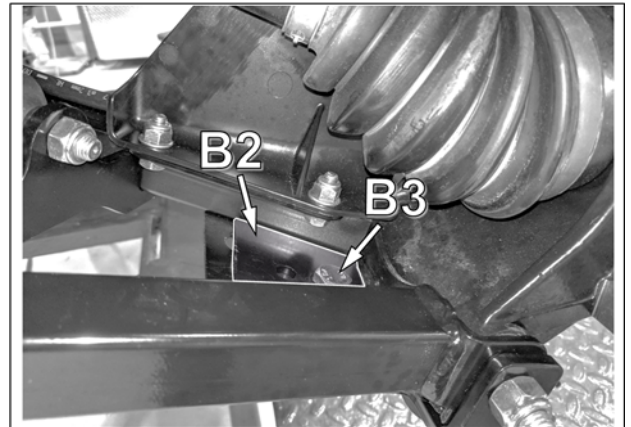

Fig. 7
- Position bracket cover (B2) over lower suspension arm. From the top, insert bolt (B3) through bracket cover, lower suspension a-arm and anchor bracket. See Fig. 7